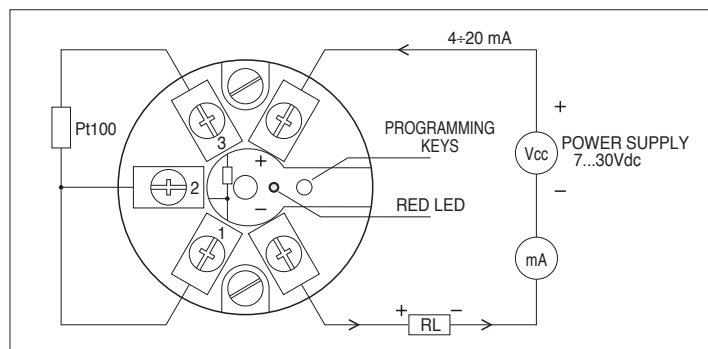

Fig. 2 Wiring diagram of the transmitters.
| Output | 4...20 mA (or 20...4 mA) 22 mA in case of incorrect programming or temperature out of range (note 1 and Fig. 2). | |
Fig. 2 reports the connection diagrams for the transmitters in the current loop. In order to obtain the maximum precision, the connection to the Pt100 should be performed with 3 wires and with wires having the same diameter so to grant the same impedance in each connection. The symbol RL (load) represents any device in the current loop that is to say an indicator, a controller, a data logger or a recorder.
1. Connect the transmitter to set-up as shown in Fig. 2 and set the Pt100 calibrator at the required temperature suitable for 4 mA (for example, assuming that you want to set the range -50...+200°C, you will set the calibrator to -50°C or equivalently you will connect a resistance of 80,31Ω between terminals 1 and 3 while 1 and 2 shorted).